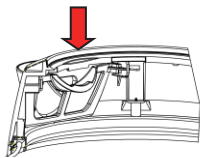

Fig. 1
2. Open the lid and then press downwards on the lip of the filter (fig 1 & 2) to unclip the filter. Clean the filter under a running tap while gently brushing with a soft nylon brush to remove the scale, then refit (hook bottom of filter over retaining lip first, then click top into position).